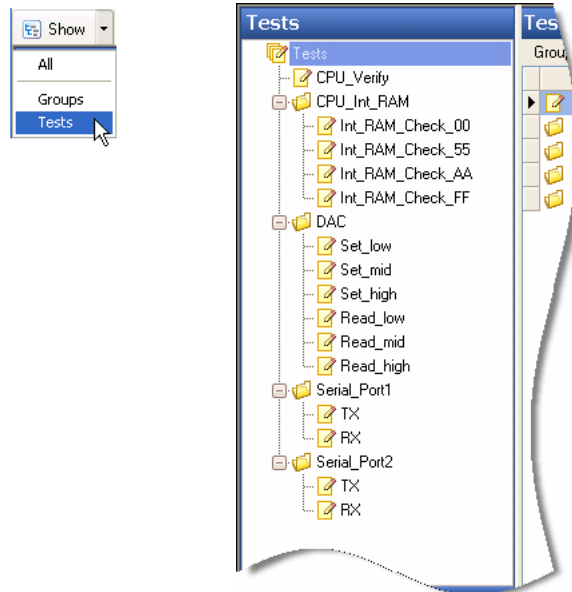

Figure 25 CPU_Verify, CPU_Int_RAM, DAC, Serial_Port1 and Serial_Port2 test groups and tests
- 5 Repeat steps 3 and 4 for the remaining test groups and tests listed in Table 5. Figure 25 shows the explorer pane with these test groups and tests added.